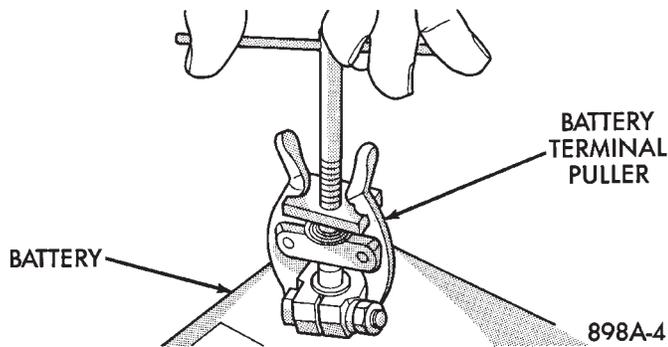
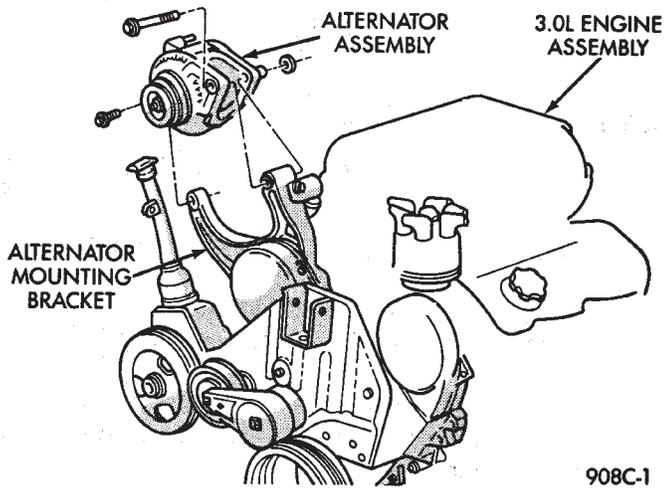
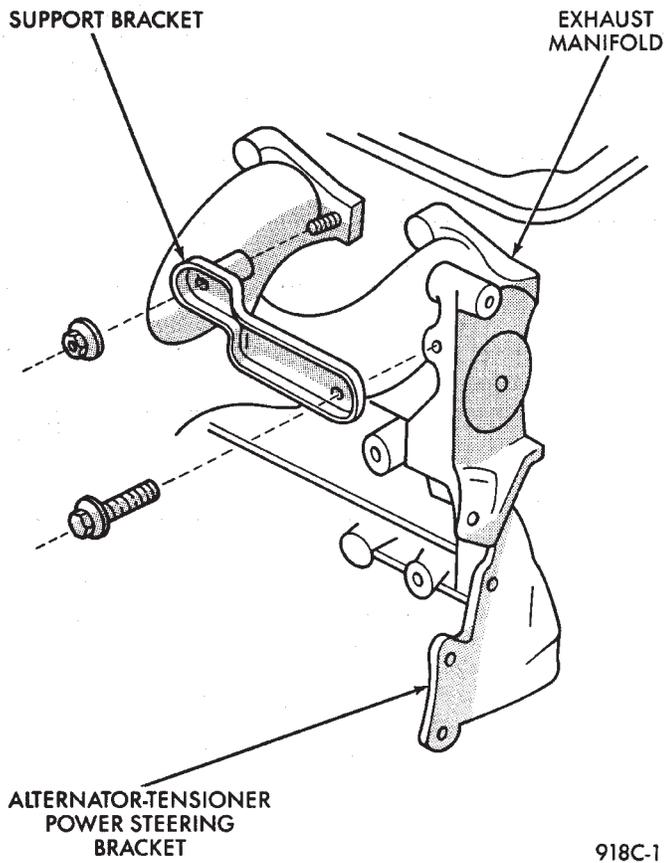
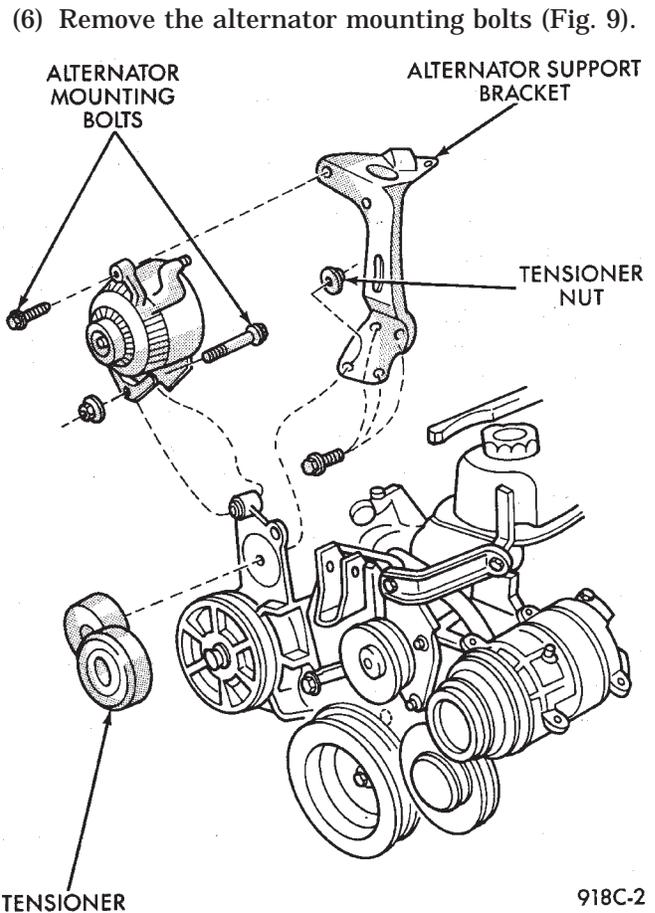

Fig. 1 Remove Battery Negative (-) Cable
Fig. 7 Remove or Install Alternator Mounting Bolts—3.0L Engine
Fig. 8 Support Bracket for Alternator Tensioner Power Steering Bracket
Fig. 9 Alternator/Alternator Support Bracket—3.3L/3.8L Engine
- (1) Disconnect battery negative cable (Fig. 1).
- (1) Disconnect battery NEGATIVE cable (Fig. 1).
- (2) Remove alternator/air conditioning drive belt. Refer to Group 7, Cooling System.
- (3) Remove the bolts retaining the A/C compressor to the mounting bracket.
- (4) Without disconnecting the A/C refrigerant lines, position the A/C compressor to allow alternator removal.
- (2) Remove alternator drive belt. Refer to Group 7, Cooling System.
- (3) Remove the alternator mounting bolts and separate the alternator from the mounting bracket (Fig. 7).
- (4) Remove the B+ terminal nut, field terminal nuts, and ground/wire harness hold-down nuts. Remove wire connectors.
- (5) Remove the alternator from the vehicle.
- (6) For installation, reverse above procedure. Torque all fasteners. Refer to the Torque Specifications chart at the rear of this group.
- (3) Loosen, but do not remove the nut on the support bracket at exhaust manifold (Fig. 8).
- (4) Remove the alternator tensioner power steering bracket bolt.
- (5) Remove the tensioner stud nut and the tensioner (Fig. 9).
- (6) Remove the alternator mounting bolts (Fig. 9).
- (7) Remove the power steering reservoir from the alternator mounting bracket.
- (8) Remove the three alternator support bracket bolts (Fig. 8).
- (9) Remove intake plenum to alternator mounting bracket bolt.
- (10) Remove alternator support bracket (Fig. 9).
- (11) Position the alternator to gain access to wiring and remove wiring from alternator.
- (12) Remove alternator.
- (13) For installation, reverse above procedures. Torque all fasteners. Refer to the Torque Specifications chart at the rear of this group.